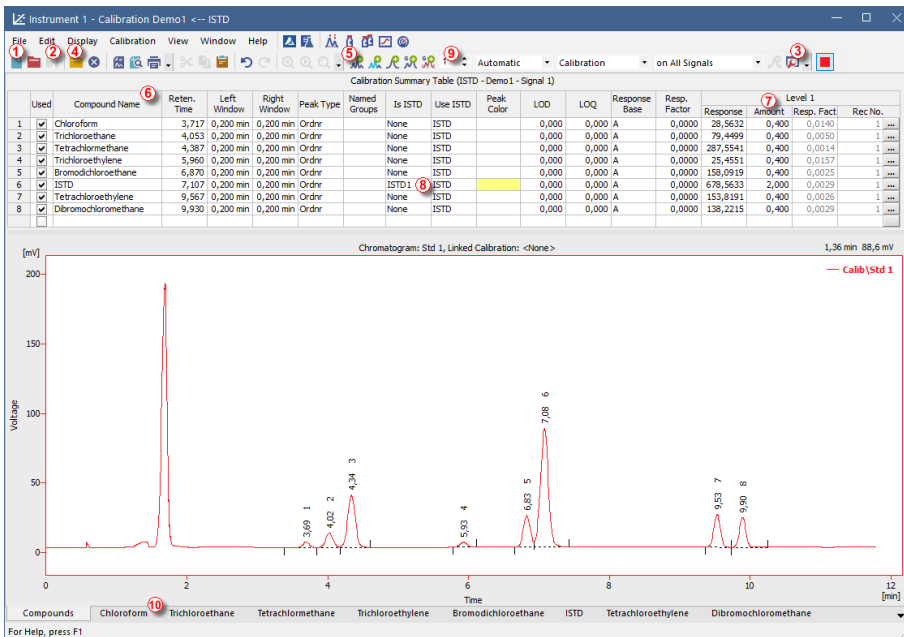

Fig 17: Calibration window - loaded standard
- Use the **Add All** icon (blue) ⑤ to move all identified peaks to the calibration table. The Calibration table appears in the **Calibration** window, ready to be completed as seen on **Fig 17** on pg 28.
- As it can be seen in the calibration, individual peaks are now identified according to their retention times only. Click and edit the fields in the **Compound Name** column ⑥ to those seen on **Fig 17** on pg 28. You may also set the peak color for specific peak, for example the ISTD peak, in the **Peak Color** column can be yellow.
- Fill the **Amount** column ⑦ with the concentration of the particular compounds. In this standard mixture, all compounds except for the peak number 6 have amount of 0.4.
- Peak number 6 is marked as ISTD peak. In the **Is ISTD** column change its type to ISTD1 ⑧ and then set its amount in the **Amount** column to 2.
- The first calibration level is now set. On the tabs of the individual compounds ⑩ (named according to the **Compound Name** field) the graph with single-point linear calibration can be seen.
- Proceed to setting the other calibration levels. The operation is quite simple and straightforward - use the **Open Standard** icon (yellow) ④ again to open another calibration standard named STD 2.PRM. Set the calibration level in the **Current Level** field ⑨ to 2 and use the **Add All** icon ⑤